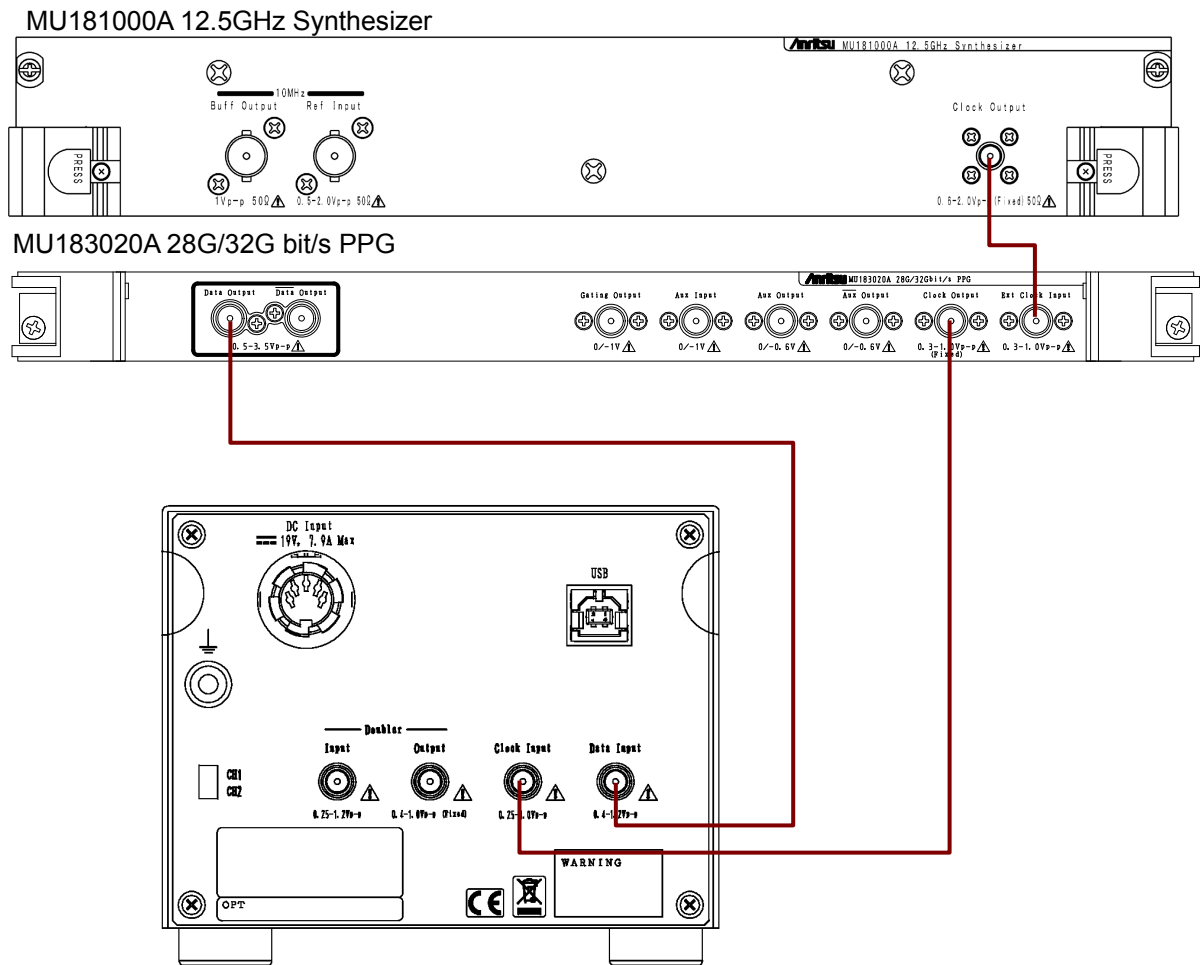

Figure 3.3-8 Connection to MU183020A 28G/32G PPG (Bit Rate 28.1 to 32.1 Gbit/s)
- For connection shown in Figure 3.3-8, set Output Clock Rate of MU183020A as **Full rate**. For MU183020A setting method, refer to Chapter 5 "Operation Method" in the *MU183020A 28G/32G bit/s PPG MU183021A 28G/32G bit/s 4ch PPG Operation Manual*.